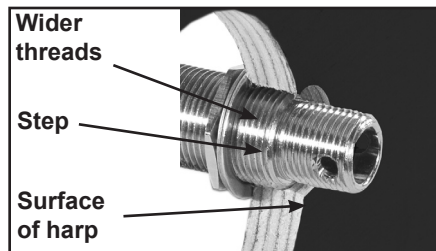

Figure 9b – Jack installation (cut-away shown for clarity)
2. Reach inside the harp and carefully push the end of the jack up through the hole you drilled in the back of the harp. Adjust the inner nut so the step to the wider threads sits about $\frac{1}{16}$ " (1.5mm) below the outer surface of the harp body (see figure 9b).